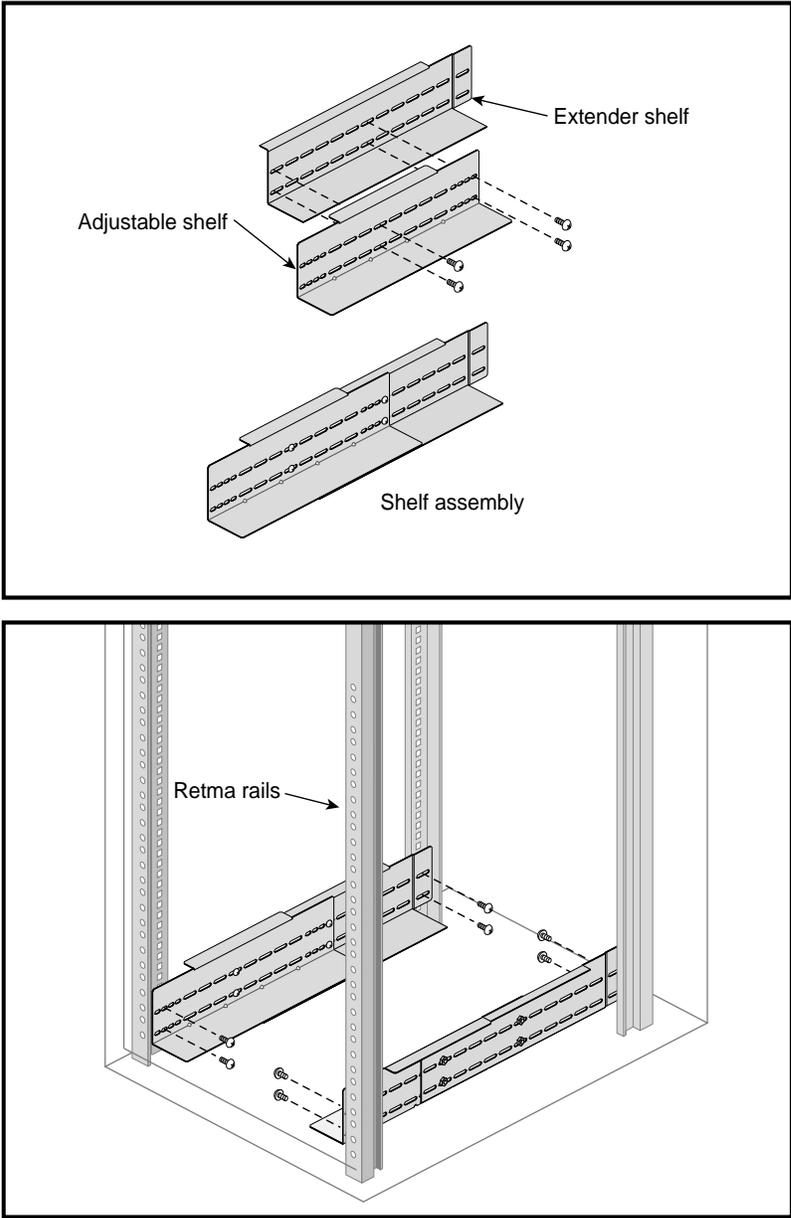
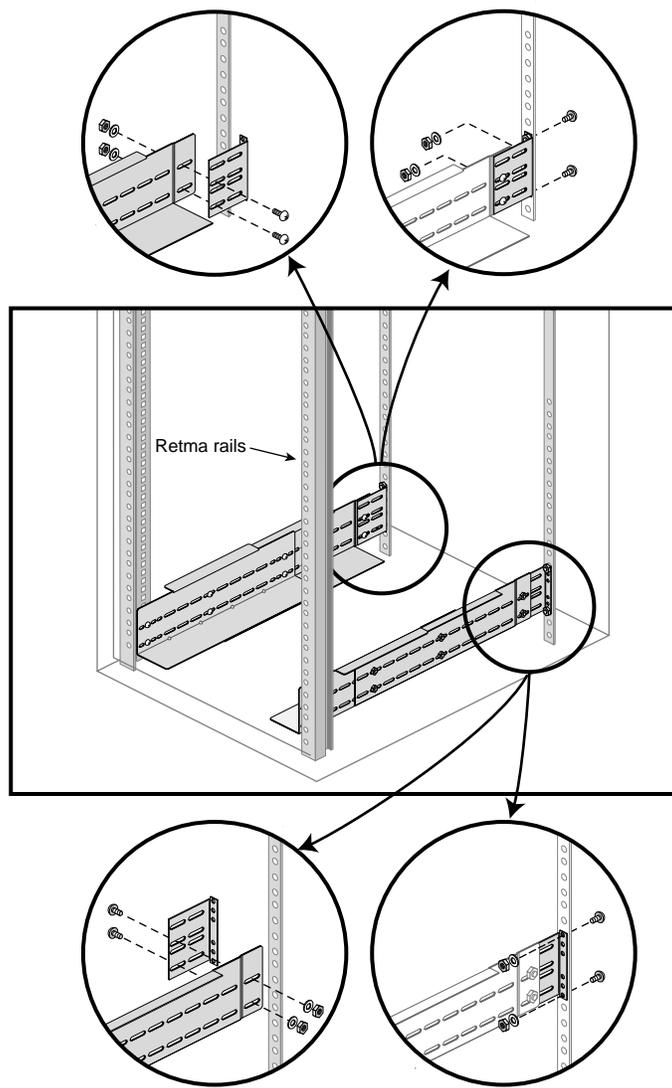

Figure 1-6 Connecting the Shelf Assembly to the Side Retma Rails
Figure 1-7 Connecting the Shelf Assembly to the Front and Rear Retma Rails
To install a system chassis in an EIA standard 19-inch equipment rack and attach the Rackmount Kit hardware, see Figures 1-6 through 1-9 and follow these steps:
1. Select a location within the equipment rack where the system will be located. The system requires 18 rack units (U) with the intake plenum and 15U without the intake plenum. (One rack unit is equal to 1.75 inches.)
2. Connect the adjustable shelf to the extender shelf with the mounting screws (see Figure 1-6). You can adjust this hardware to accommodate various depths. The final shelf assembly length should be able to mount between the front and rear retma rails. (You can also use the shelving hardware supplied with the rack, if applicable.)
Note: Some equipment racks do not have the side retma rails required for side mounting the shelf assemblies as shown in Figure 1-6. In such cases, you must use the shelf brackets to mount the shelf assemblies to the front and rear retma rails, as shown in Figure 1-7. If both types of retma rails are available, side mounting is recommended.
3. Attach the left and right exhaust plenum shelf assemblies to the equipment rack front and rear retma rails with the mounting screws (see Figure 1-6 or Figure 1-7). The adjustable shelves should be facing toward the front of the rack. (This shelf assembly supports the bottom of the exhaust plenum. Be sure to position the shelf assembly in the exact area where the exhaust plenum will be located.)
4. Attach the left and right system chassis shelf assemblies to the equipment rack with the mounting screws (see Figure 1-6 or Figure 1-7). The adjustable shelves should be facing toward the front of the rack. (This shelf assembly supports the bottom of the system chassis and must be positioned 3U above the exhaust plenum shelf assembly.)